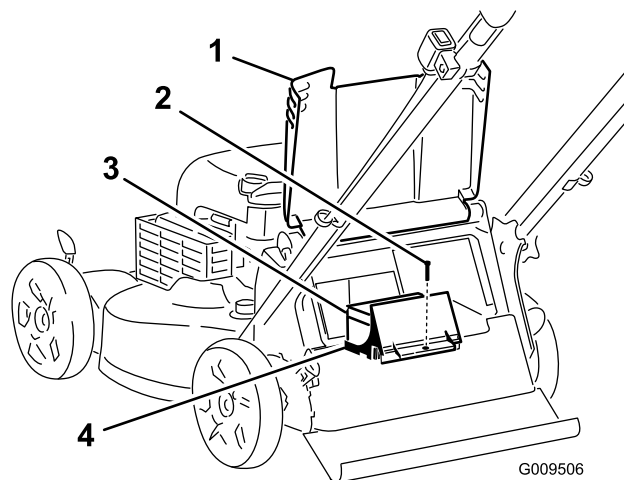

Figure 25
1. Raise the rear deflector and locate the battery compartment (Figure 25).